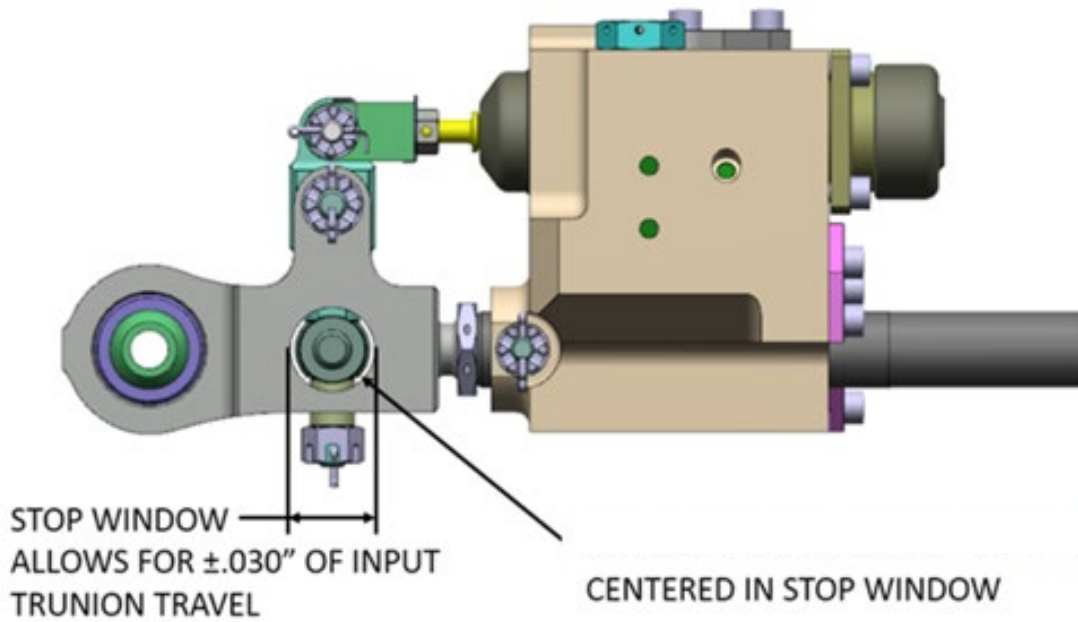

FIGURE 10 – Hydraulic Servo Actuator Centering
- g. Center the pilot input linkages on all three hydraulic servo actuators (Figure 10).